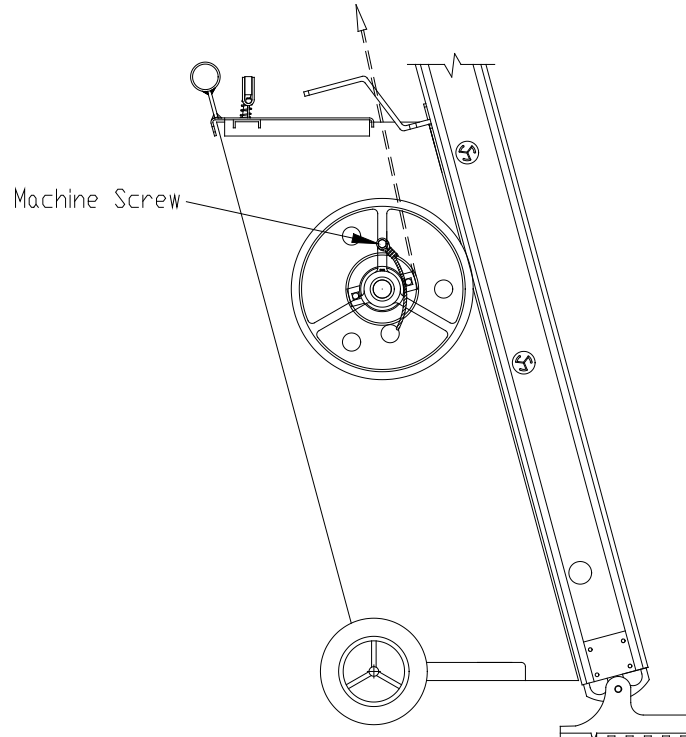

Figure 6-2.
1. Refer to Figure 6-2. Each end of the wire rope is equipped with loops. The small loop is attached to the brake sheave by passing it through the hole and bending it back against the pull or load. It is snubbed over the web of the sheave and fastened to the sheave with the screw provided. The large loop is used for attaching loads with a shackle and hook. On platform units, the hook is mounted on the platform or top bracket, and the loop is slipped over the hook.